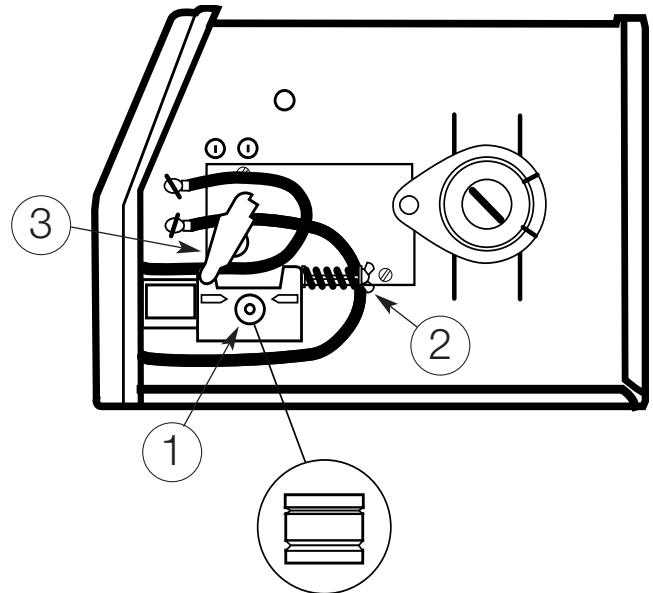

FIGURE D.1
The drive roll, Figure D.1 Item 1, has two grooves; one for .023" – .025" (0.6 mm) solid steel electrode and a larger groove for .030" (0.8 mm) solid and .035" (0.9 mm) flux-cored steel electrode. As shipped, the drive roll is installed in the .023"-0.025" (0.6 mm) position.
2. Release the spring-loaded idle arm tensioner, Figure D.1 Item 2, and lift the idle roll arm, Figure D.1 Item 3, away from the drive roll.